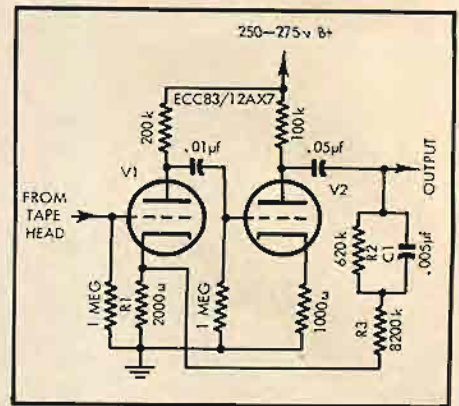

Fig. 1. Schematic of tape-head preamp providing NAB equalization.
A. Figure 1 shows the circuit you ask for. At very low frequencies (below 50 cps), virtually no negative feedback exists between the plate of V_1 and the cathode of V_2 , because there is about 630k resistance (R_2 plus R_3) between these points; R_2 is virtually unbypassed by C_1 (0.005 μ f) because at the very low frequencies the impedance of C_1 is much greater than the value of R_2 (620k). But the impedance of C_1 becomes equal to R_2 at approximately 50 cps, so that feedback begins to increase appreciably at this frequency due to the bypassing action of C_1 . Response is down 3 db at 50 cps due to increased feedback. As frequency rises, the impedance of C_1 becomes proportionately less, resulting in greater feedback and further reduction in response. However, the fall in response due to the bypassing action of C_1 cannot go on forever, because R_2 and R_3 are also in the feedback circuit, preventing the feedback voltage from dropping to zero. The impedance of C_1 becomes equal to